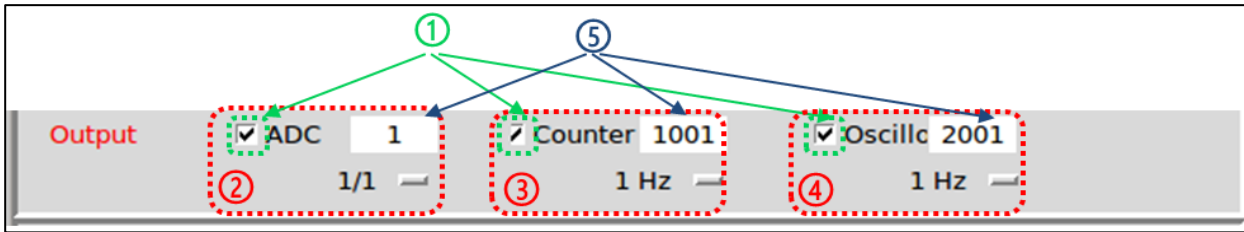

Figure 47: parameters of the Data output module
The Output module (Figure 47) defines the output data sent to the computer by checking buttons ①. These data are:
- the data processed by the ADC module ②,
- the counting data ③,
- the data from the Oscilloscope module ④.